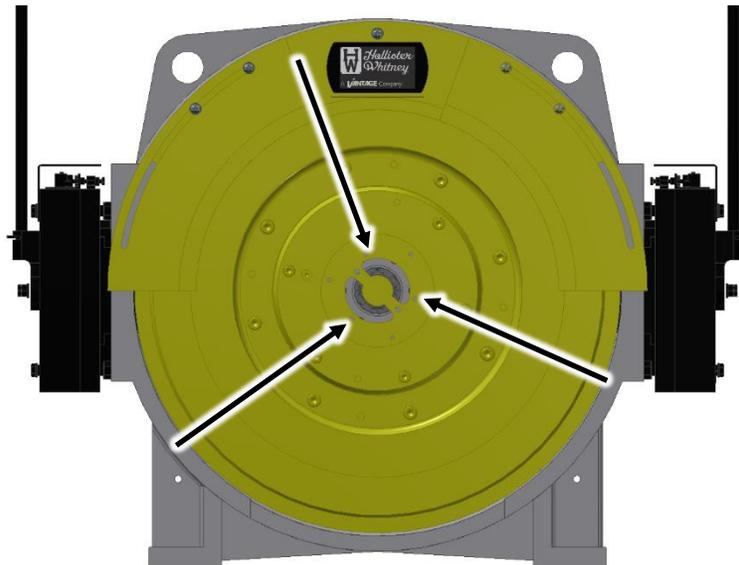

Figure 22
6. Insert M6 jack bolts in the encoder cover holes and jack the encoder mounting plate off. See Figure 22.